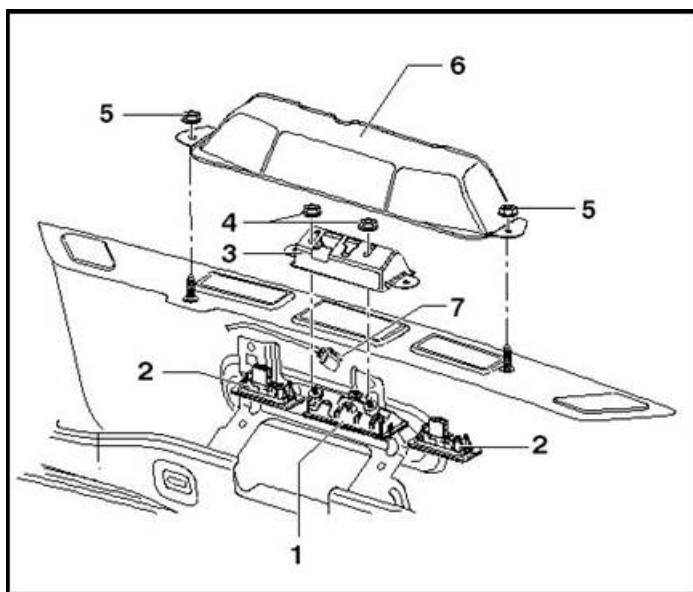

Figure 8: Clipped-on license plate light
- Install the new release handle (Figure 8, number 1), handle cover (Figure 8, number 3), and assembly cover (Figure 8, number 6). See Repair Group 55 in Elsa.